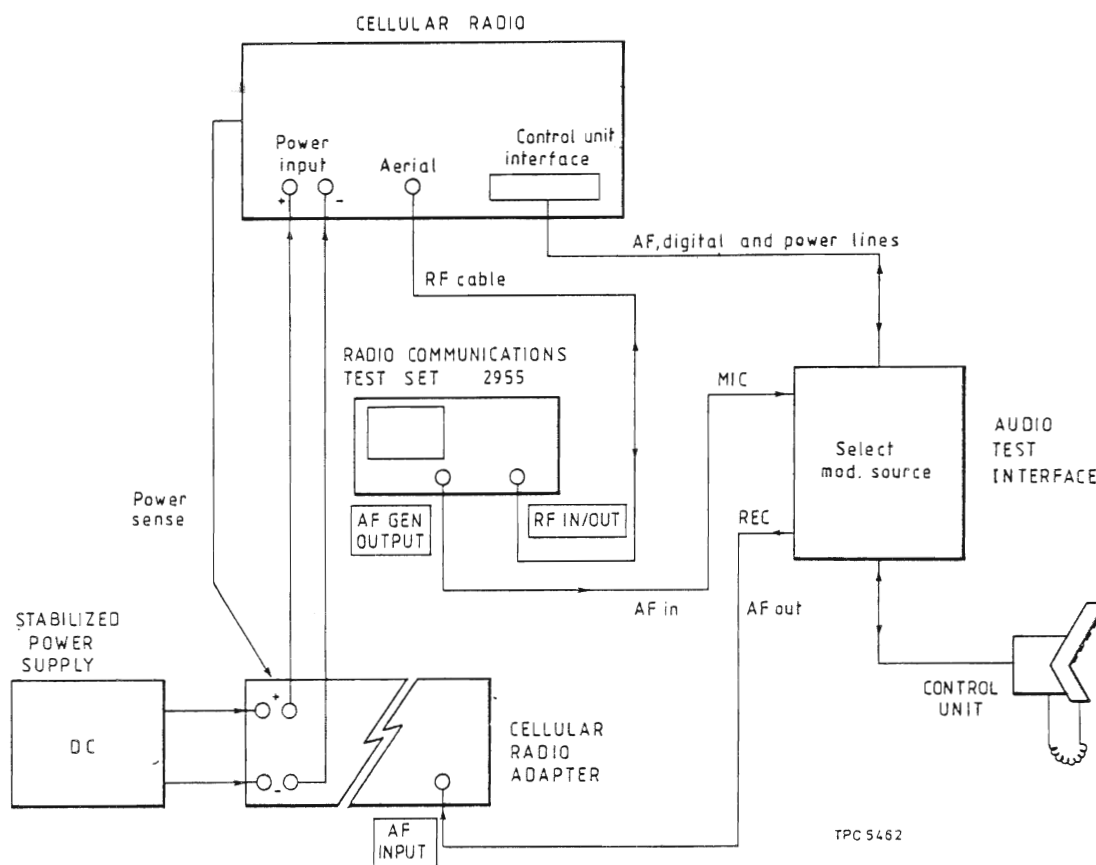

Fig. 4 Interconnections for testing cellular radio
15. To test a cellular radio receiver and transmitter in accordance with the procedures given in this manual, interconnect the equipment in the manner shown in Fig. 4 and described below. Note, however, that the cellular radio and test interface connections will vary slightly between manufacturers:-